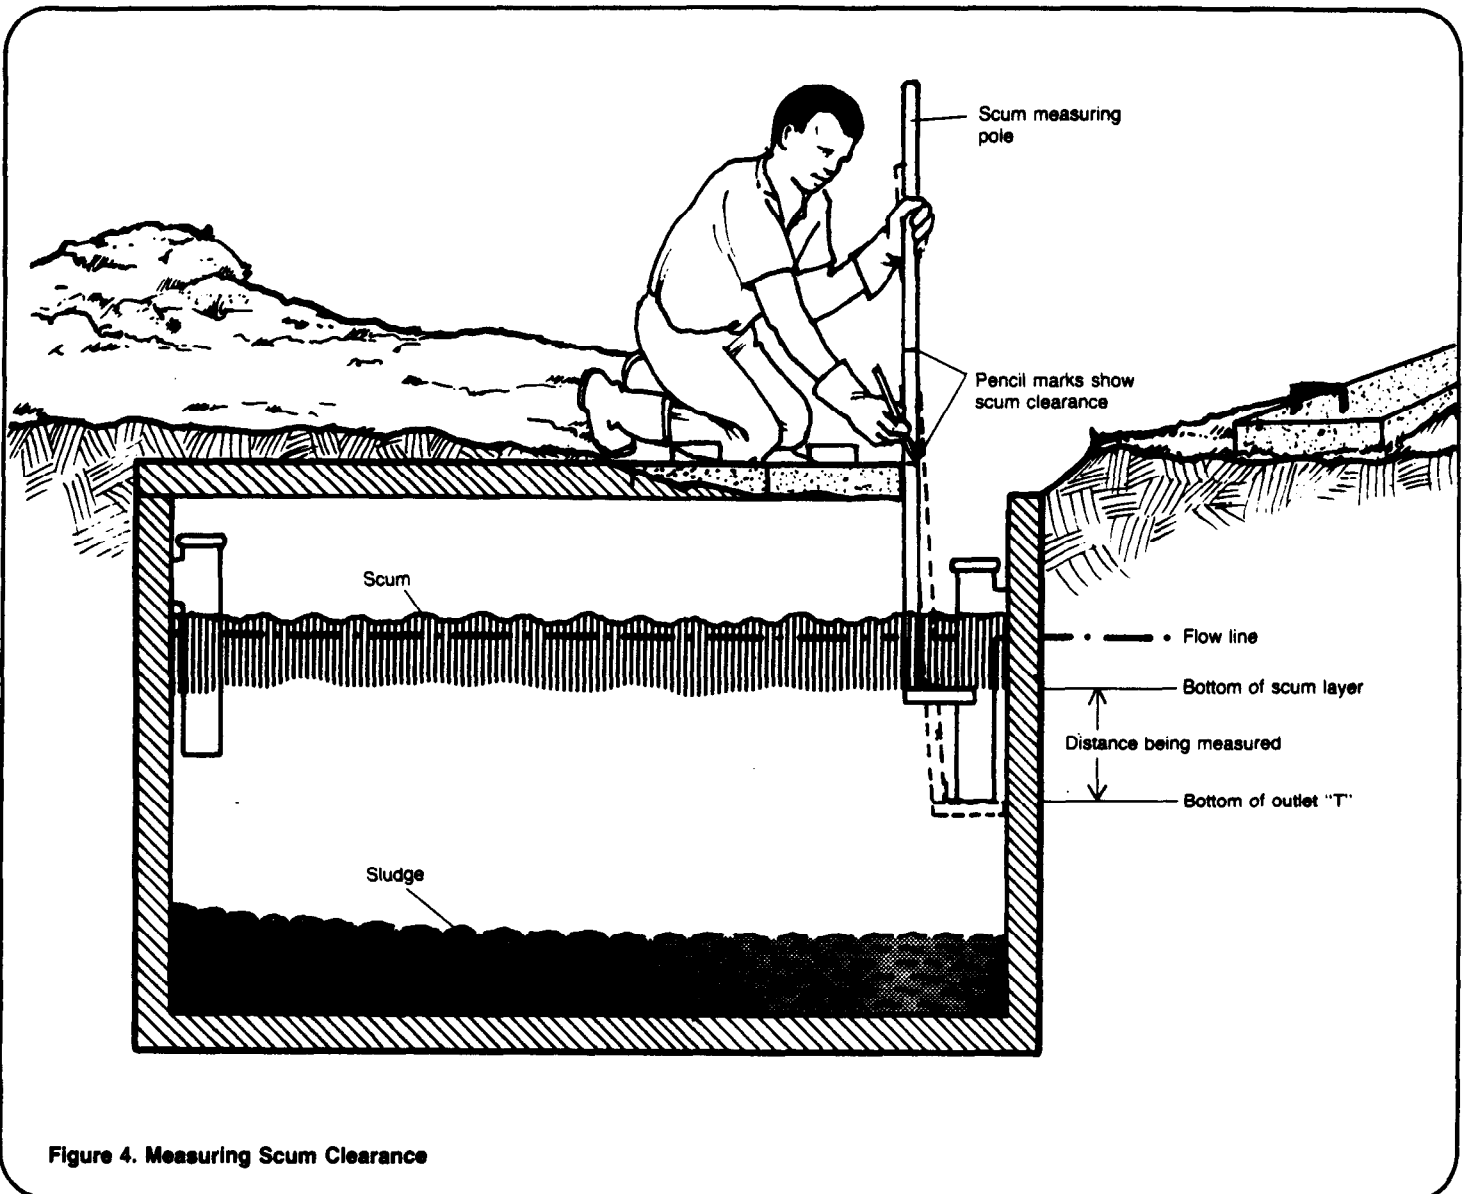

Figure 4. Measuring Scum Clearance
NOTES: 1. Liquid depth is the distance from the design flow line to the bottom of the tank (see Figure 4).
3. Raise the pole slowly as shown in Figure 4, until you can feel the bottom of the scum layer. It will offer more resistance than the liquid.